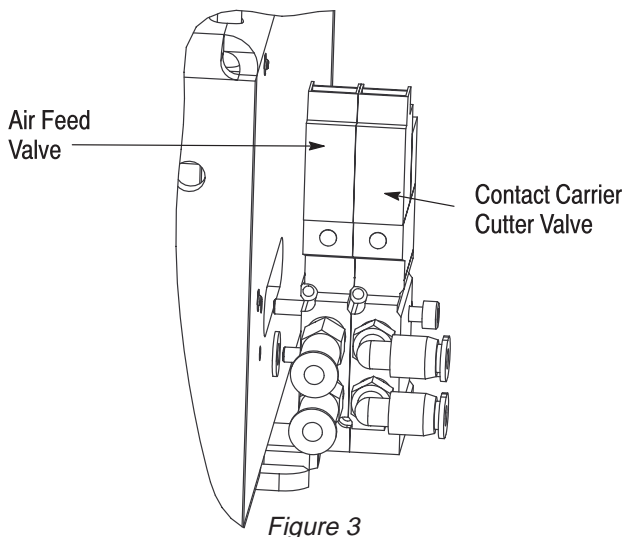

Figure 3
6. Use the provided hardware to mount the valve to the terminator base (Figure 3).
Be sure to position the provided washer behind the valve on the lower screw. (See Figure 3) and secure the control line in the provided "P-clip."
*If the optional contact carrier cutter valve is also installed, position the air feed valve underneath as shown in Figure 3.*